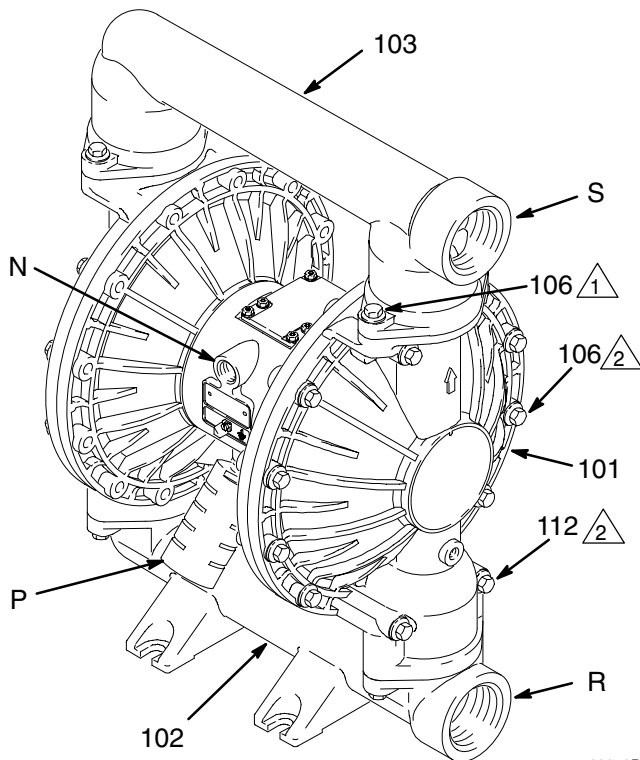

Fig. 3
4. The pump is very heavy. If it must be moved, have two people lift the pump by grasping the outlet manifold (103) securely. See Fig. 3 on page 8.
The pump is shipped with the fluid inlet (R) and outlet (S) ports facing the same direction. See Fig. 3. To change the orientation of the inlet and/or outlet port:
1. Remove the screws (106) holding the inlet (102) and/or outlet (103) manifold to the covers (101).